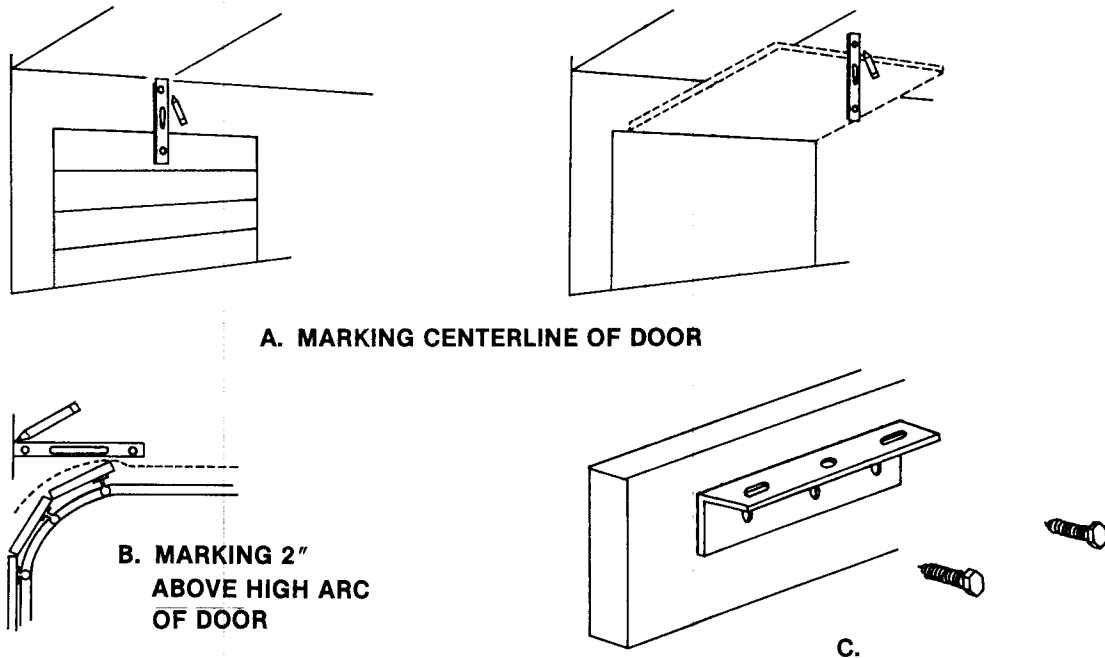

FIG. 4
**STEP 3.** Attach one of the angle brackets provided directly to the structure or the addition with lag screws or bolts and self locking nuts so that one leg of the bracket provides a shelf upon which the front end of the rail may be rested and subsequently attached. (See Fig. 4 C ). The leg of the bracket forming the shelf should be at the horizontal mark made in **STEP 1**. The center hole in this leg should be aligned with the center of the door opening or the vertical line. The other leg of the bracket which is to be attached to the structure may be above or below the mark as the situation requires.
If a ceiling exists, before proceeding with **STEP 4**, open the door and with the door in its fully open position, plumb from the center of the top edge of the door to the ceiling and mark the ceiling. (See Fig. 4 A ). Return the door to its fully closed position. Between the ceiling mark made in **STEP 1** and this mark, a string or chalk line can be pulled to define a center line about 2 to 3 ft. behind the door when it is fully open. This will be helpful in **STEP 5**.